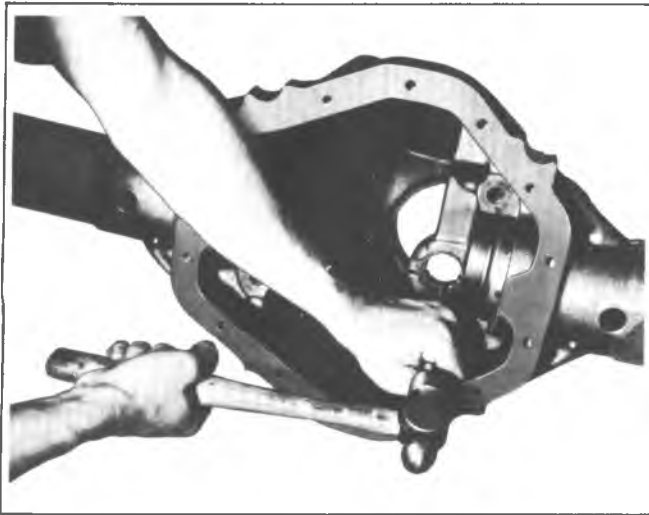

Fig. 12E-Removing Straddle Bearing
9. Drive the pinion straddle bearing from the carrier housing, using a drift as shown in figure 12E.